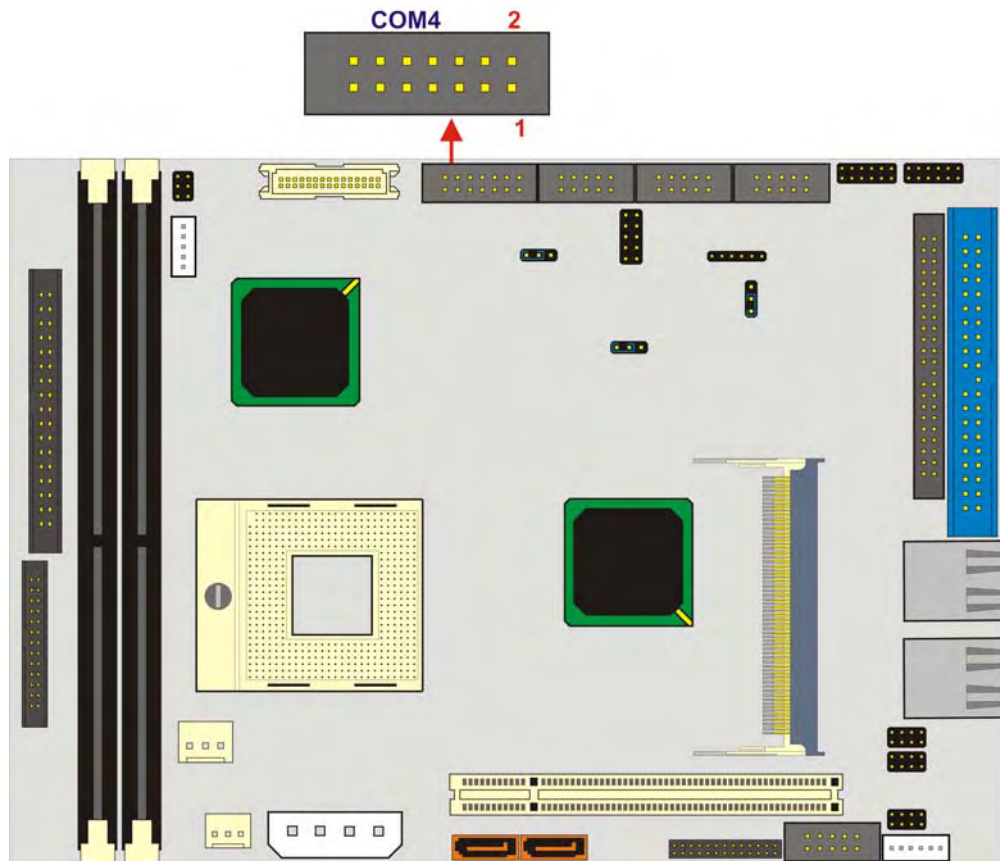

Figure 3-20: RS-232/422/485 Serial Port Connector Location
- CN Location:** See Figure 3-20